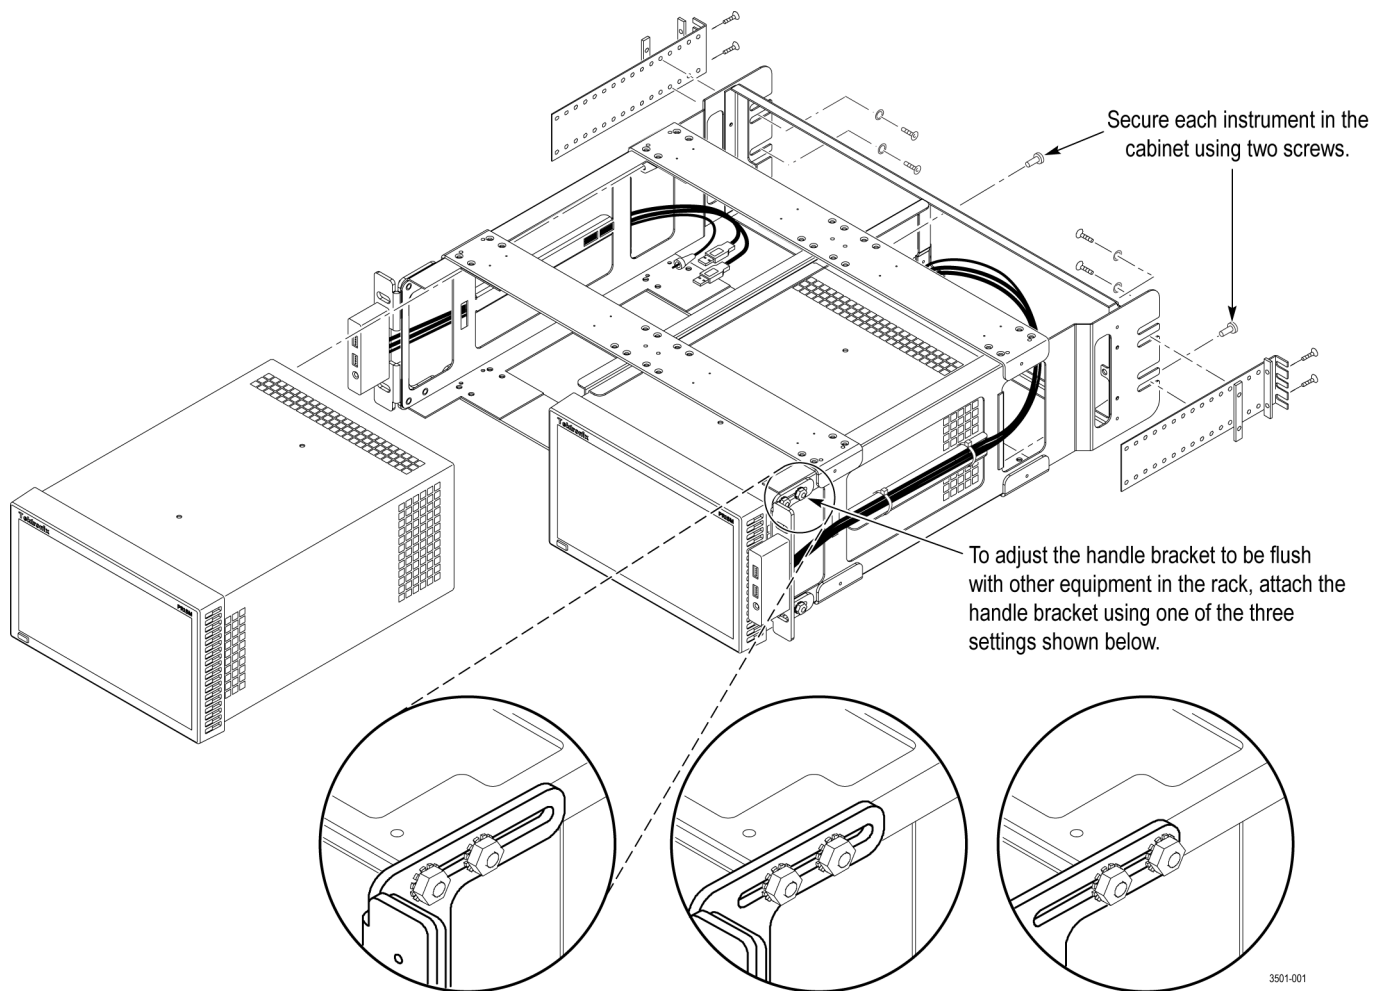
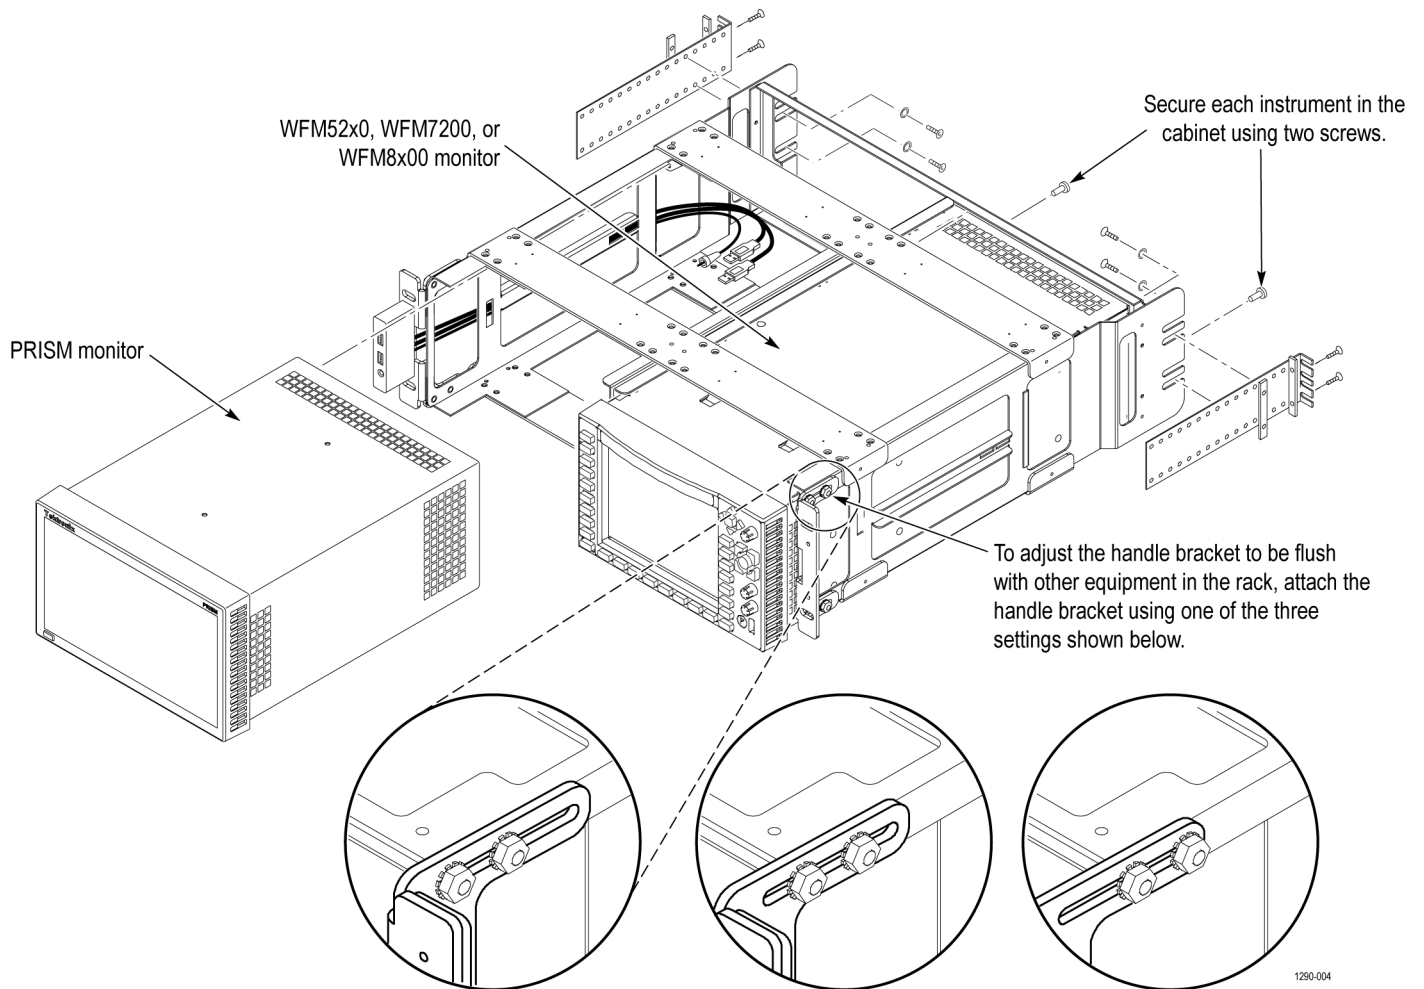

Figure 2: Installing two MPI monitors in the MPI-RACK-MM dual rack cabinet
Figure 3: Installing one MPI monitor and one waveform monitor in the MPI-RACK-MW dual rack cabinet
Before you install an instrument into the rack adapter, install the adapter into the rack as follows: (See Figure 2.)
1. Install the PRISM monitor in the dual rack cabinet: (See Figure 2.) (See Figure 3.)